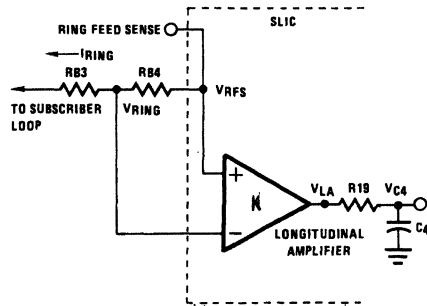
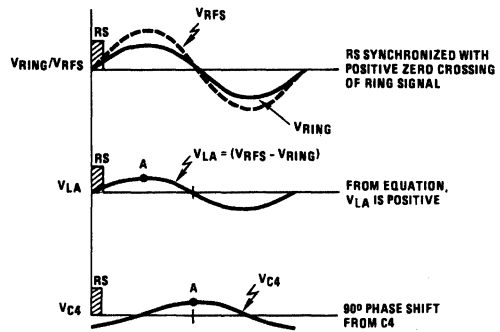

FIGURE 4.
FIGURE 5.
For Case 2 refer to Figures 4 and 5. Here ring sync must be synchronized with the positive zero crossing of V_{RING} (AC) as it appears on the line so as to coincide with the negative peak of V_{C4} (AC), as in the previous case. One can see from Figure 5 that ring sync on the negative zero crossing would coincide with the positive peak of V_{C4} , inhibiting ring trip for loops greater than approximately 800Ω.